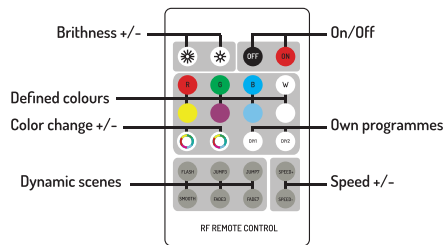

Fig. 3
- Step 1: Press and hold the "FLASH" button on the remote control (Fig.3), switch on the controller, the LEDs will light up at 50% brightness in white colour.
- Step 2: Pressing the "FLASH" button on the remote control (Fig.3) three times within 3 seconds will change the LED brightness by 25% -10% - and then the controller will confirm the programming procedure by flashing the strip light three times.